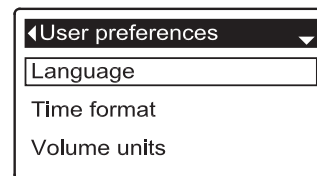

FIG. 48
3. Press the SELECT (O) button to display the User preferences menu (See Figure 48).
7. Press the SELECT (O) button. The display will go back to the User preferences menu (Figure 48).